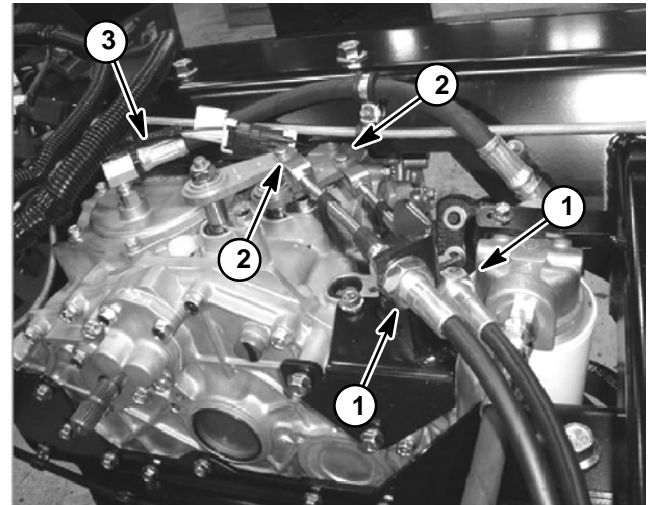
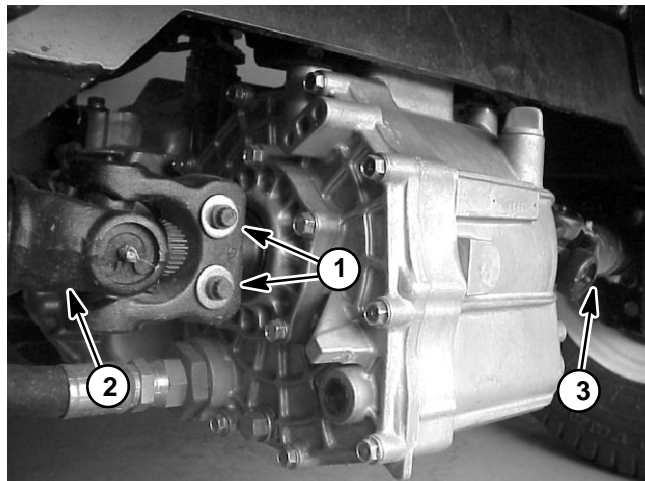

Figure 30
Figure 32
6. Label shift cables to ease reassembly. Loosen shift cable jam nuts at cable mount (Fig. 30). Remove cotter pin and clevis pin that attach shift cable ends to transaxle shift arm levers. Pull shift cables free from mount.
7. Disconnect hydraulic return hose from top of transaxle (Fig. 30). Locate, remove and discard hose O-ring.
12. Loosen and remove cap screws, hardened washers and lock nuts that secure driveshafts (both right and left sides) to transaxle axle shafts (Fig. 32). Remove both driveshafts from machine.
- E. Install cap screws, hardened washers and lock nuts to secure driveshafts to transaxle axle shafts (Fig. 32).
7. Secure LH parking brake cable to front transaxle mount with two (2) R-clamps.
10. Position shift cables to cable mount noting cable identification made during disassembly. Center the cable threads to the cable mounts and secure cables with jam nuts (Fig. 30).